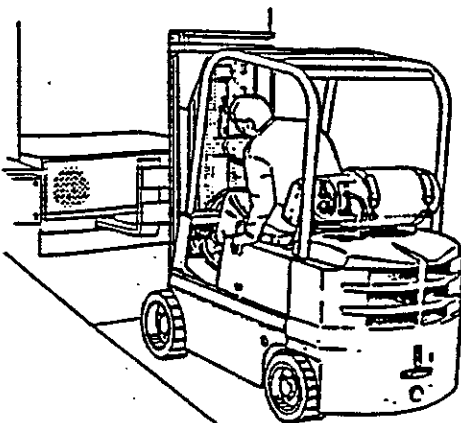
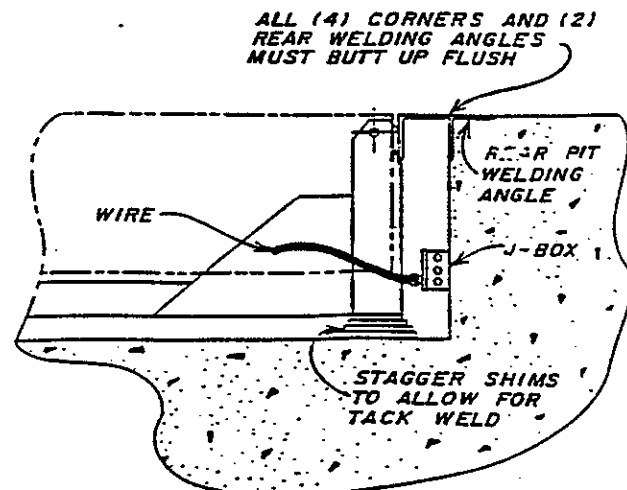

Figure 4
Figure 5
6. Position the dock leveler in the pit (See Figure 4) making sure the electrical wire coming out of junction box at the rear of pit does not become crimped between the unit frame and pit. (See Figure 5)
7. Once the leveler has been set in pit make sure all four (4) corners are flush with dock surface.
8. Once a flush fit has been obtained all around the board, tack weld the two (2) rear welding angles together. (See Figure 5)